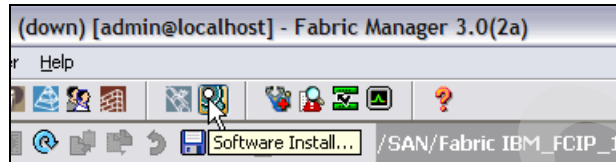

Figure 11-16 FW install selection
7. With FM open, select the **Software Install** icon, as shown in Figure 11-16.